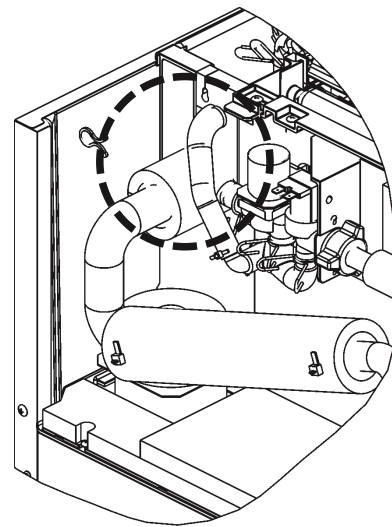

Fig. 2
- 5) Disconnect the bin control at the 2-pin connector attached to the black wires (located in the circle in Fig. 2) coming from the K1 connector (pins 4 & 5) on the control board.